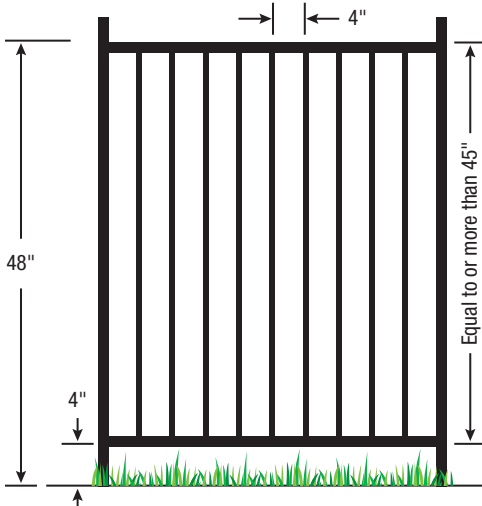

Figure 1
1. The **top of the barrier** should be at least **48 inches** above the surface measured on the side of the barrier which faces away from the swimming pool (figure 1).
2. The maximum **vertical clearance between the surface and the bottom of the barrier** should be **4 inches** measured on the side of the barrier which faces away from the swimming pool. In the case of a non-solid surface, grass or pebbles, the distance should be reduced to 2 inches, and 1 inch for removable mesh fences (figures 1 and 10).